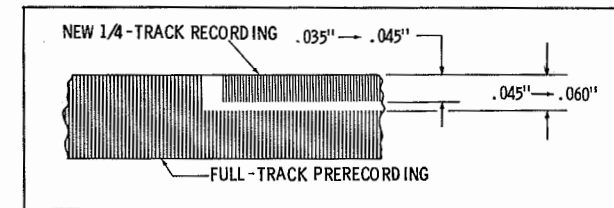

Fig. 19. Magnetic Dispersal Pattern.
3. Submerge a small section of the tape as described in the Magna-See Kit instructions. The pattern shown in Fig. 19 should appear. Inexpensive pocket microscopes calibrated in thousandths of an inch can be used to measure the track width.